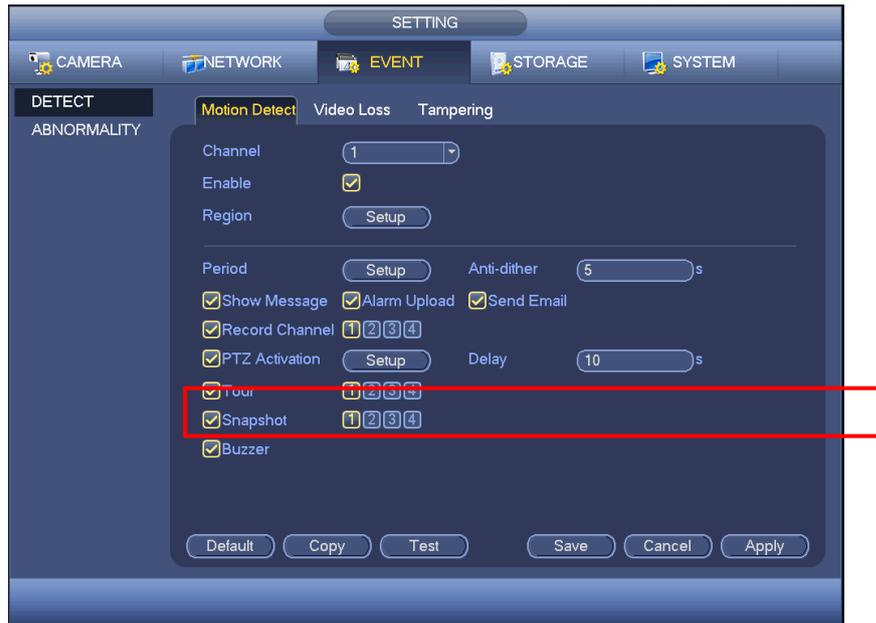

Figure 4-146
- In main menu, from Setting->Event->Detect, please enable snapshot function for specified channels (Figure 4-146).